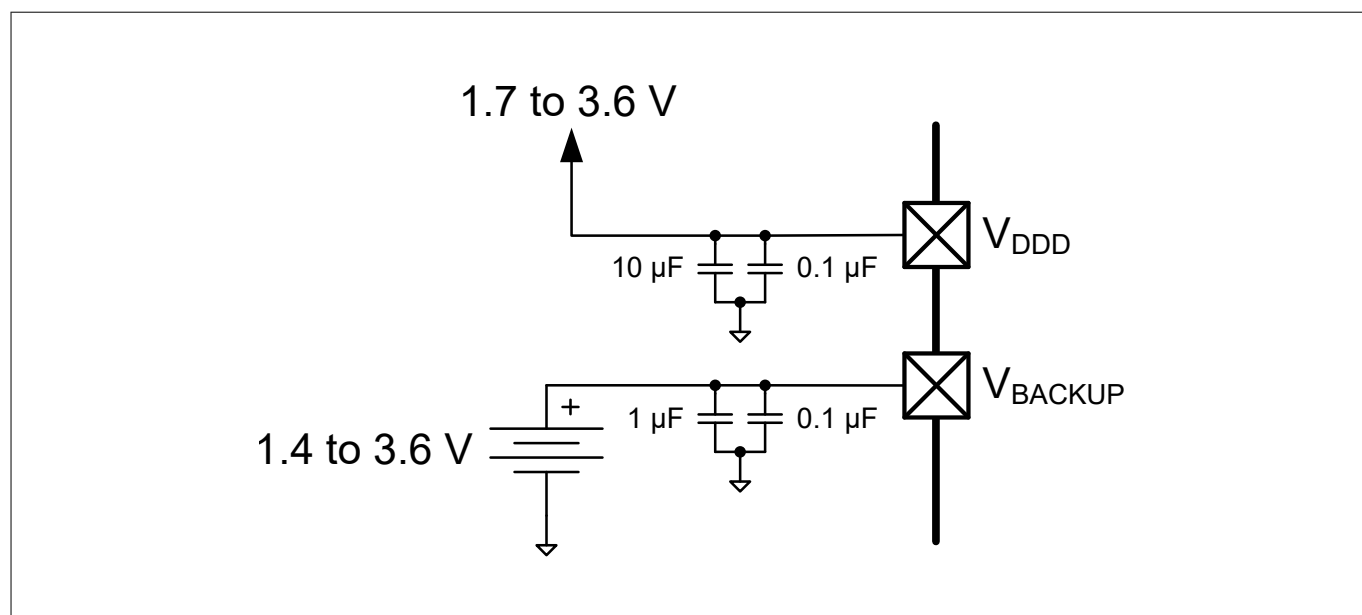

Figure 15 Separate battery connection to V_{BACKUP}
- V_{BACKUP} : the supply for the backup domain, which includes the 32-kHz WCO and the RTC. It can be a separate supply as low as 1.4 V, for battery or supercapacitor backup, as Figure 15 shows. Otherwise it is connected to V_{DDDD} . It powers I/O port 0